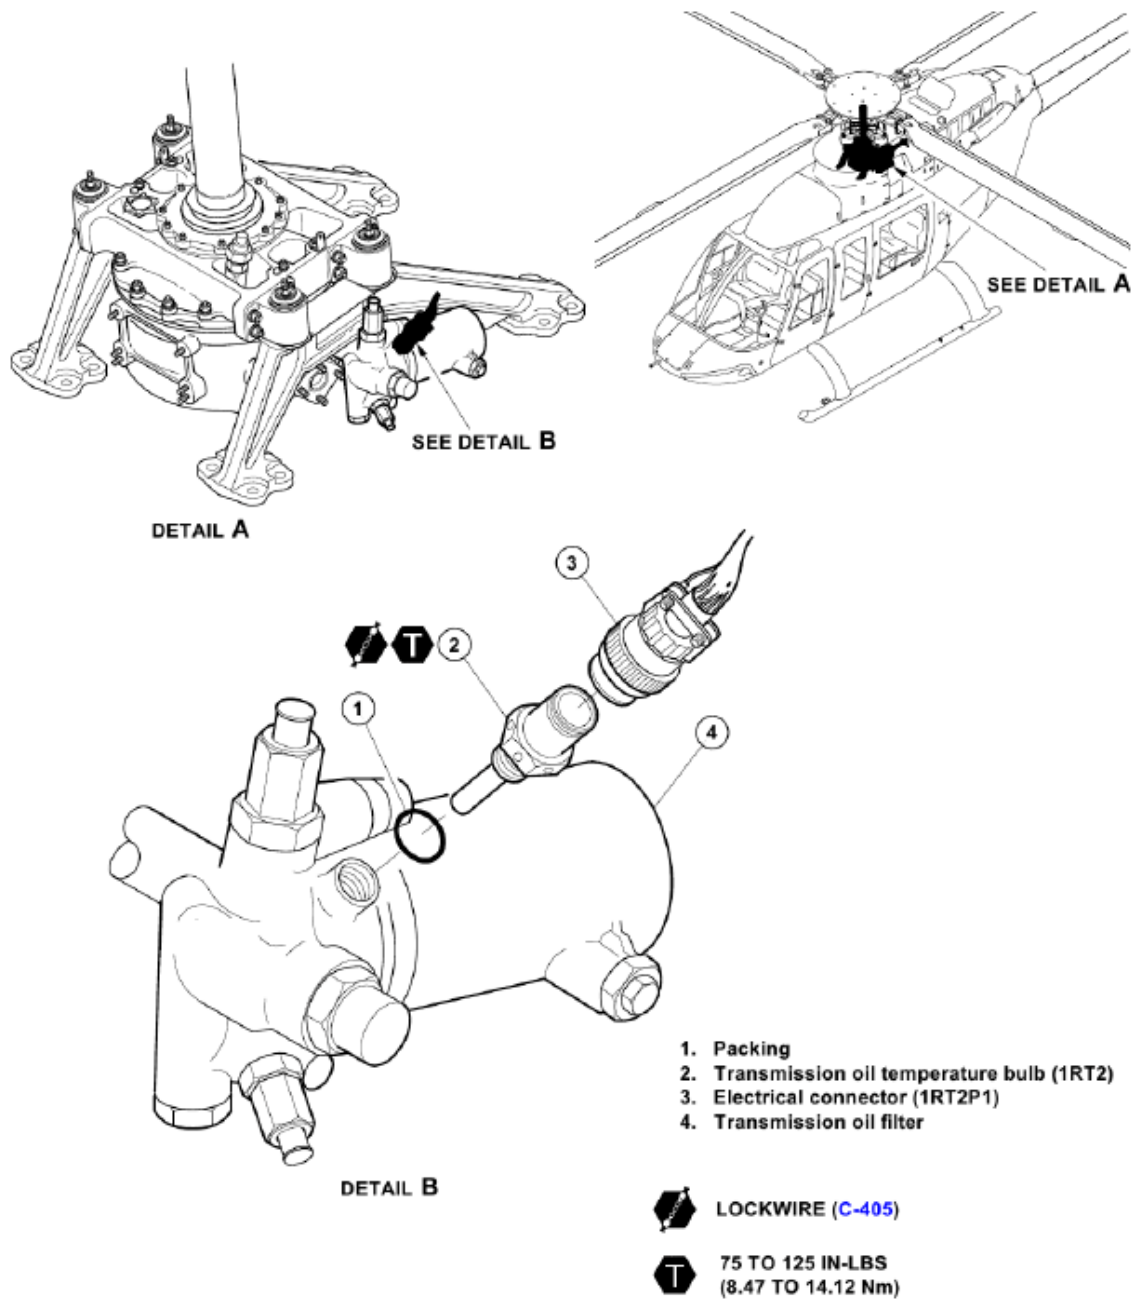

Figure 95-30: Transmission Oil Temperature Bulb - Removal and Installation
3. Disconnect the electrical connector (1RT2P1) (3, Figure 95-30) from the transmission oil temperature bulb (1RT2) (2).
4. Remove the lockwire from the transmission oil temperature bulb (1RT2) (2).
5. Remove the transmission oil temperature bulb (1RT2) (2) and the packing (1). Discard the packing.
2. Lubricate the packing (1, Figure 95-30) with transmission oil.
4. Install the packing (1) on the transmission oil temperature bulb (1RT2) (2).
5. (1RT2) Install the transmission oil temperature bulb (2) in the port on the left side of the transmission. Tighten the transmission oil temperature bulb.
6. Safety the transmission oil temperature bulb (1RT2) (2) with lockwire (C-405).
7. Connect the electrical connector (1RT2P1) (3) to the transmission oil temperature bulb (1RT2) (2).